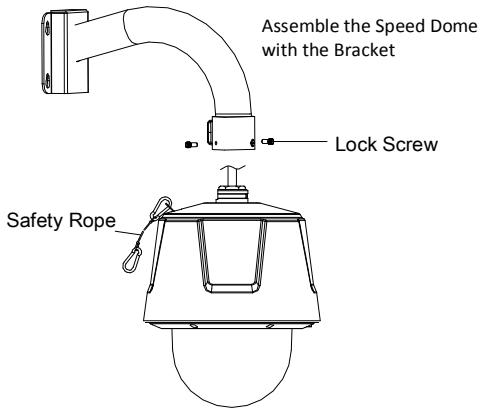

Figure 2-7 Assemble the Speed Dome with Bracket
- The bracket in Figure 2-7 is the recommended bracket for this series of speed dome, and a pendant adapter is required if any other bracket is selected. The dimension of pendant adapter is $G1\frac{1}{2}$.